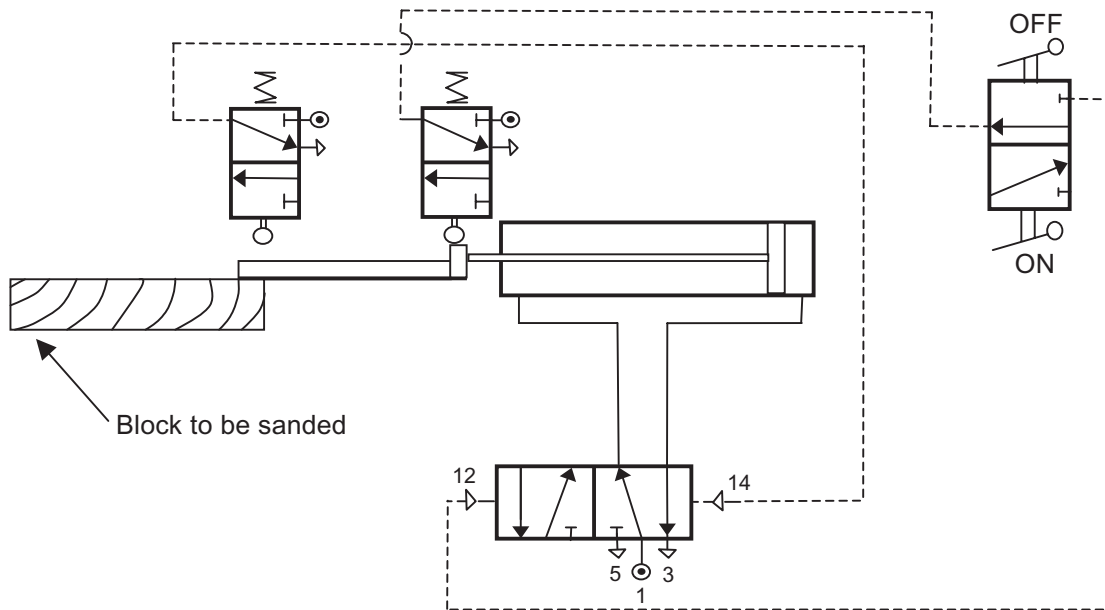

Fig. 4(a)
- 4 (a) Fig. 4(a) below shows a circuit to be used to sand blocks of wood. Name the specific components which are the input, control and output for the circuit. [3]
- (b) (i) Fig. 4(b) shows a circuit designed to control a hopper containing sand. When valves A and B are pressed together the 5 PV should send the cylinder negative to open the base of the hopper. When the bag fills the table would lower to activate an air bleed and send the cylinder positive to close the hopper.